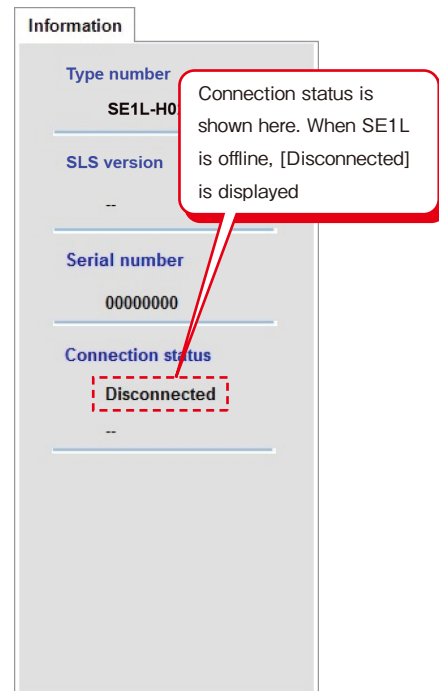

Figure 7-26. Disconnected
- When the SE1L is disconnected, [Disconnected] is shown. No port number will be displayed. Figure 7-26 shown the information tab when the SE1L is disconnected.